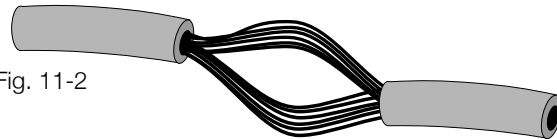

Fig. 11-2
- A. First locate the proper wire where the poke and weave method is to be installed. Strip 3/4" to 1" of insulation from the wire in the vehicle to be installed. Spread the wire strands apart as shown. See Fig. 11-2